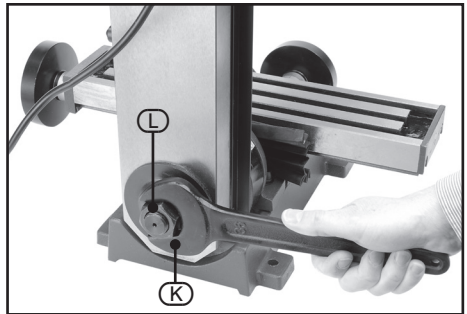

FIG.5
9.3 HEADSTOCK ANGLE ADJUSTMENT – FIG.5